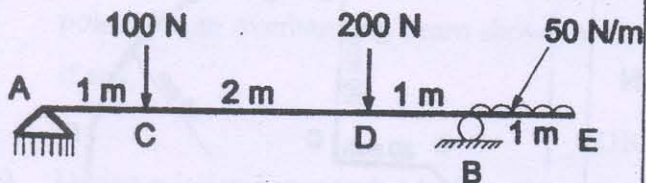

Figure 11
- (b) Draw shear force and bending moment diagrams indicating values at all important points for an overhanging beam shown in figure 11. Also locate point of contra-flexure if any. 10